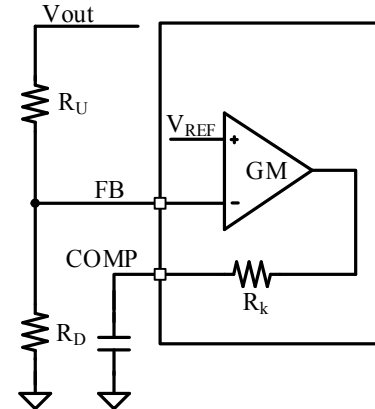

Figure.6 Output voltage feedback circuit
SY5072 regulates the boost output voltage using a trans-conductance internal error amplifier (EA). The inverting terminal of the EA is pinned out to FB, the non-inverting terminal is connected to an internal 1.25V voltage reference, and the EA output is pinned out to COMP (Fig.6).